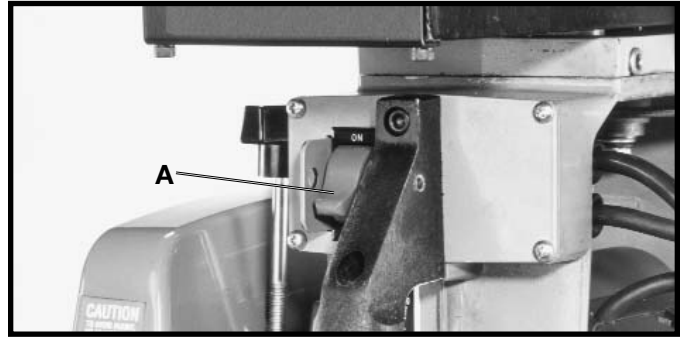

Fig. 56
The on/off switch (A) Fig. 56, is located at the front of the cutting-head. To turn the saw “ON” move the switch (A) Fig. 56, up to the “ON” position. To turn the saw “OFF” move the switch (A) Fig. 56, down to the “OFF” position.